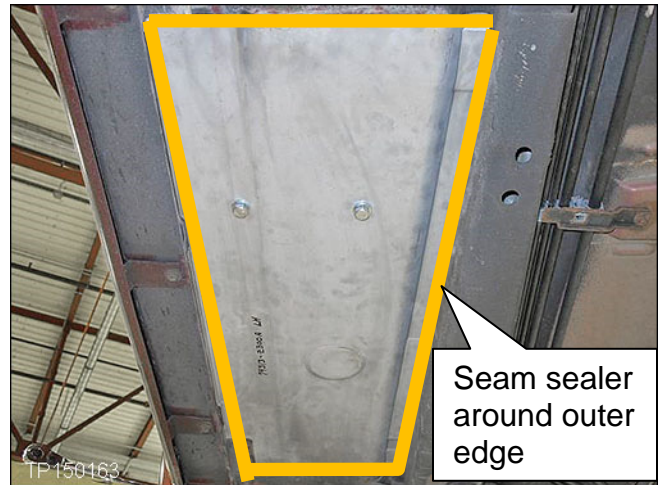

Figure 10
18. Apply LORD Fusor® 800DTM (seam sealer) as shown in Figure 10 and 11.